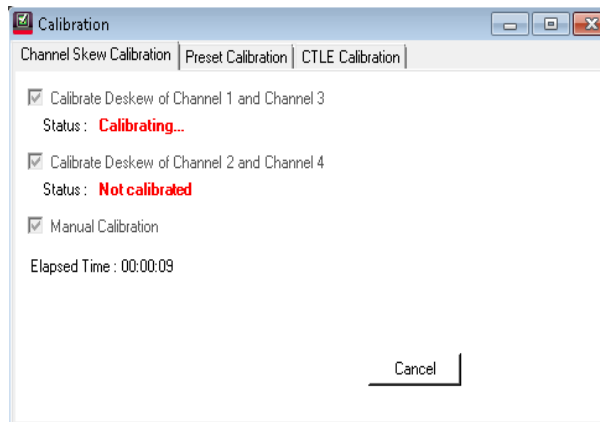

Figure 31 Calibration Status changes
- 4 When you click **Done**, the **Calibration** window displays again with the updated Status along with the time elapsed during this process, as shown in Figure 31: